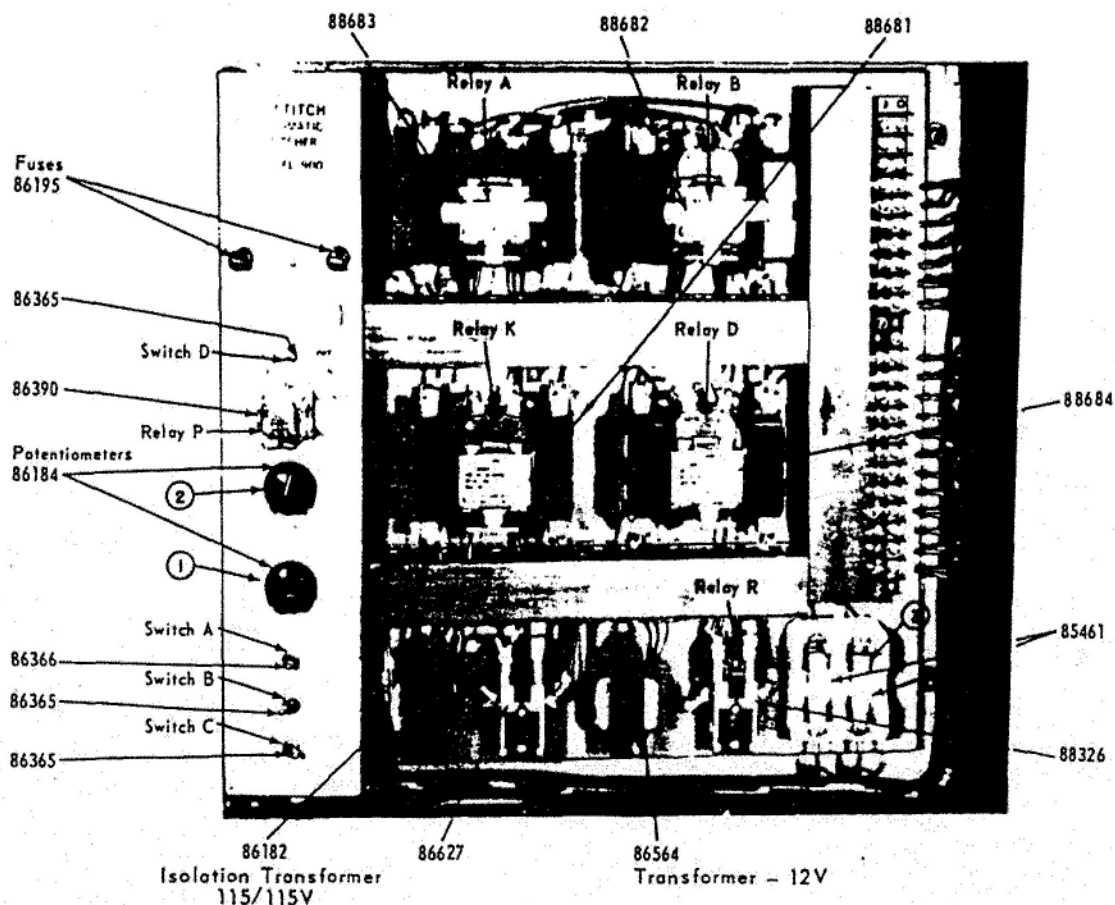

Figure 25 - Control Cabinet
The clutch rheostat (1), Figure 25 should be set only high enough to provide satisfactory starting.
To put this unit into operation, simply move switch "D", Figure 25 to the "ON" position and set the brake rheostat (2) at approximately 50 on the graduated dial, or in a position to stop the formers in a non interfering position with a box being fed through the openhead.
If for any reason the stitcher is run at a slower speed, which would cause the over excitation unit to stop the stitcher too soon, change the brake rheostat to a lower setting. If, after adjusting the rheostat to a lower setting the stitcher still stops too soon, move switch "D", Figure 25, to the "OFF" position and increase adjustment of the brake rheostat (2).
2. Check to see that relay "R", (Figure 25) operates when contact finger tab and switch plunger are brought together.
2. Check to see that Switch "B", Figure 25 operates when contact finger tab and switch plunger are brought together.
2. Check to see that clutch rheostat, (1), Figure 25, is adjusted high enough to give clutch proper torque or pulling power. See section titled, "Clutch and Brake Adjustments."
3. See Figure 25 and Wiring Diagram. Check fuses (3). Check to see that relay "P" functions to release brake and engage clutch.
1. Check for loose or broken wire in control box, Figure 25.
2. Check fuses (3), Figure 25.
1. Check relay "P", Figure 25 for faulty or inoperative coil.